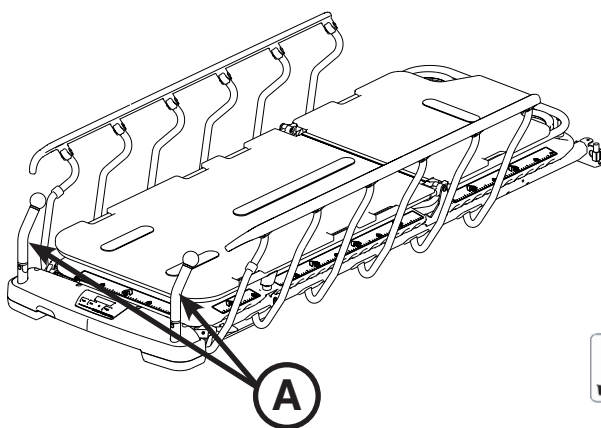

Figure 19: Foot End Push Handles Open
To use the push handles, pivot the handles (A) up and push down until they are locked into position (Figure 19).